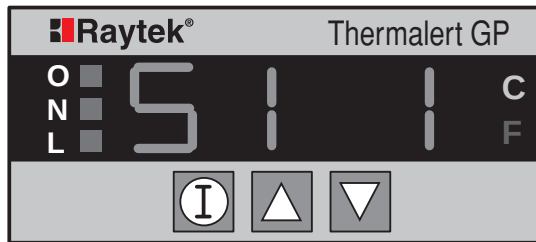

Figure 8: Setpoint Display (Showing Setpoint 1 Active)
1. In temperature/value display, press the  button until a display similar to Figure 8 appears. (Setpoint 1 shows as "S1" followed by a number 0, showing that Setpoint 1 is Inactive, or a number 1, designating active).